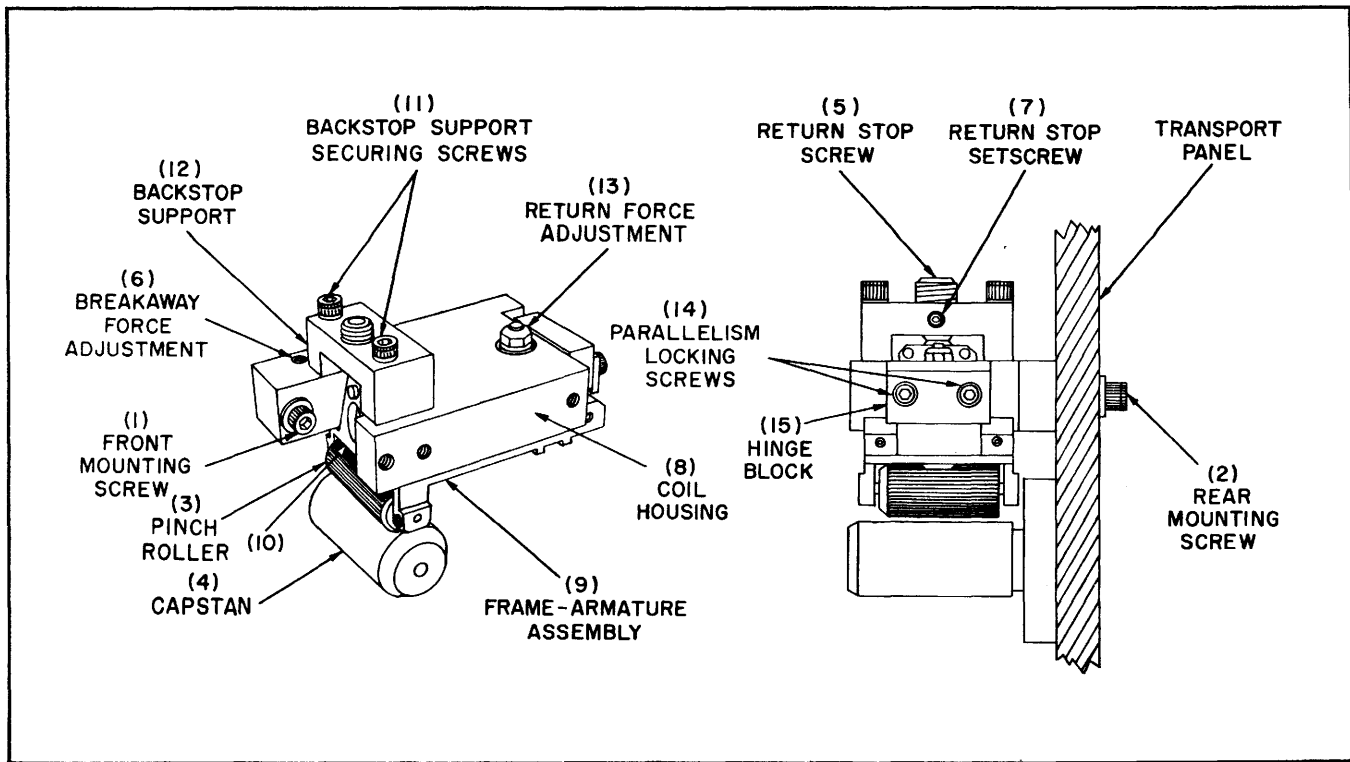

Figure 6-1. Pinch Roller Solenoid Adjustments
a. Prior to energizing the solenoid, check that a gap exists between pinch roller (3), figure 6-1 and capstan (4). If not, loosen setscrew (7) and back off return stop screw (5), and if necessary, adjusting screw (6), while pushing the coil housing (8) away from the capstan by hand. Tighten socket head screws (1) and (2).